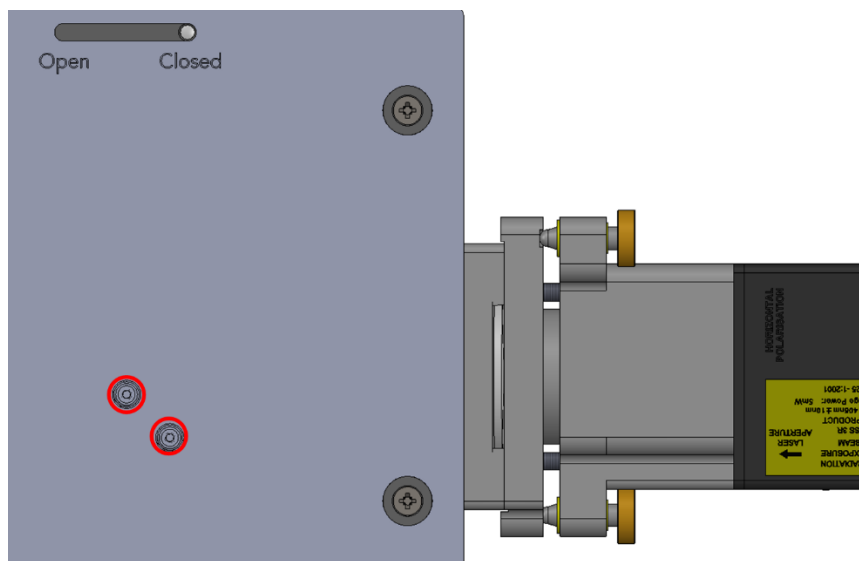

Figure 35: Location of mirror adjustment holes for final beam alignment.
- Using a 2mm allen key, fine tune the internal mirror through the laser steering box lid (Figure 35):